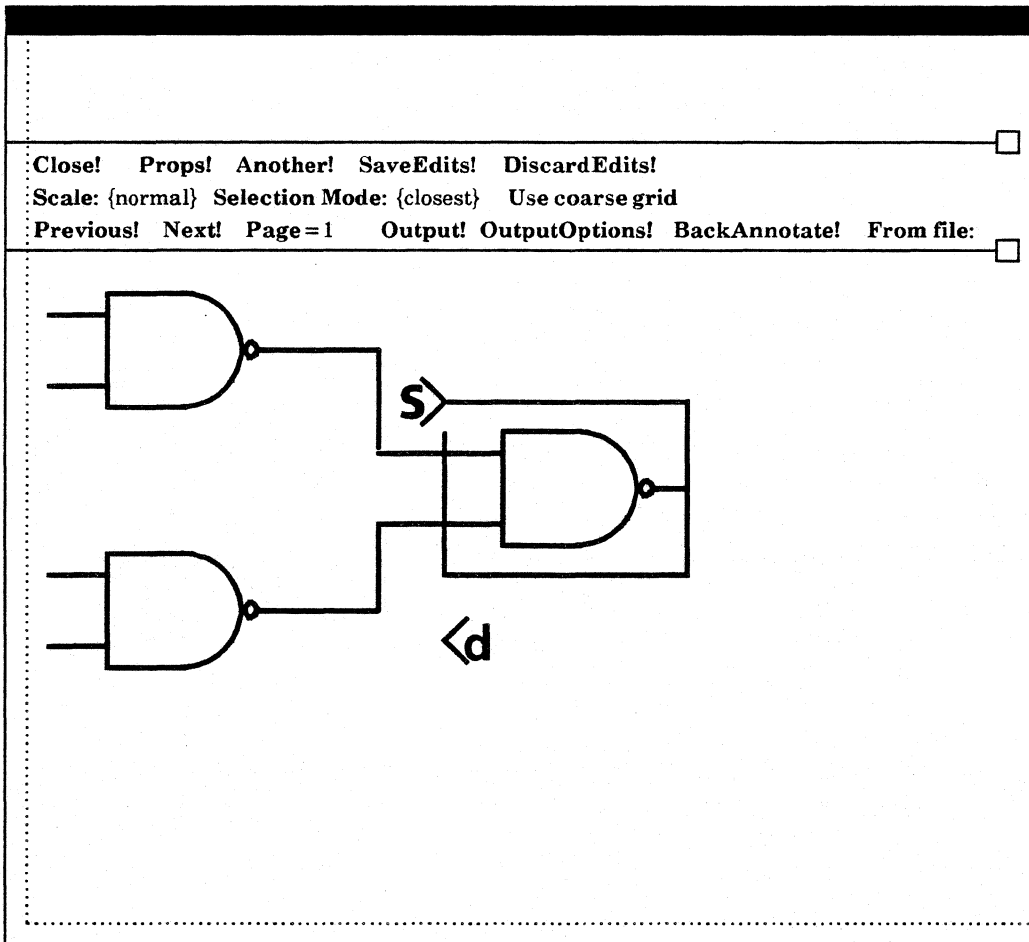

Figure 2.40
- 2) Mark the location to which you want to copy the object with the destination marker (figure 2.40). The system moves the source marker to the destination location, and copies the item so that it retains its relationship with the source marker.